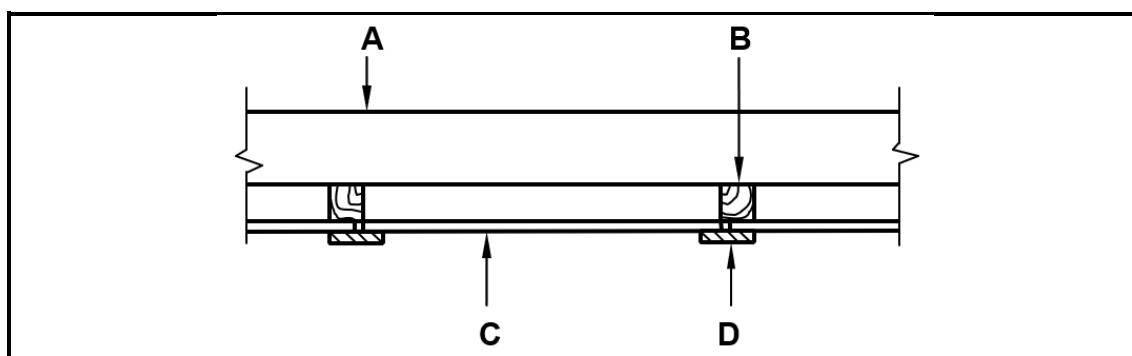

FIGURE 4.8
- 4.9 FIGURE 4.8 below shows a sectional view of a conventional trap door. Study the sketch and give ONE word/term for each of letter (A to D) by choosing a word/term from the list below.